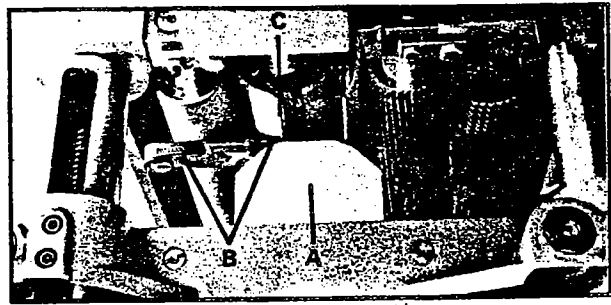

Fig. 28
3. Place the gage block (A) Fig. 28, on the table directly underneath the cutterhead, as shown. Using a 0.40" feeler gage (B) Fig. 28, placed on top of the gage block, raise or lower the head until the knife (C) just touches the feeler gage when the knife is at its lowest point. Do not move the head any further until the chipbreaker is checked and adjusted if necessary.